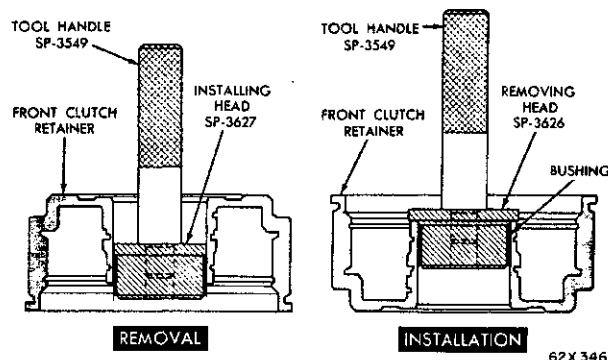

Fig. 85—Removing the Front Clutch Retainer Bushing—TorqueFlite Six
(1) Lay the clutch retainer (open end down) on a clean smooth surface and place the removing head Tool SP-3627 in the bushing (Fig. 85). Install the handle Tool SP-3549 in the removing head.
(2) Drive the bushing straight down and out of the clutch retainer bore. Be careful not to cock the tool in the bore.
(3) Lay the clutch retainer (open end up) on a clean smooth surface. Slide a new bushing on the installing head Tool SP-3626, and start them in the clutch retainer bore (Fig. 85).
(4) Install handle Tool SP-3549 in the installing head. Drive the bushing into the clutch retainer until the tool bottoms.
(5) Thoroughly clean the clutch retainer before assembly and installation.